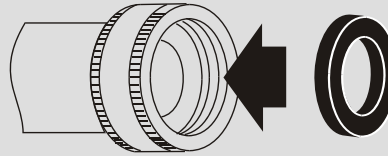

Figure 1
1. Insert a new flat washer into each end of the inlet hoses. Firmly seat the washers in the coupling. (As figure 1)